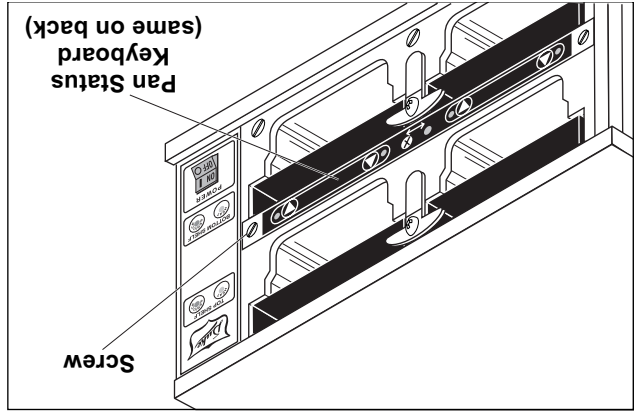

Figure 18. Pan Status Keyboard
3. Remove the screws, Figure 18, securing the Pan Status Keyboard that is to be replaced.
The Pan Status Keyboards, Figure 18, are located on both the front and the back of the Warmer. Both keyboards are removed in the same manner.